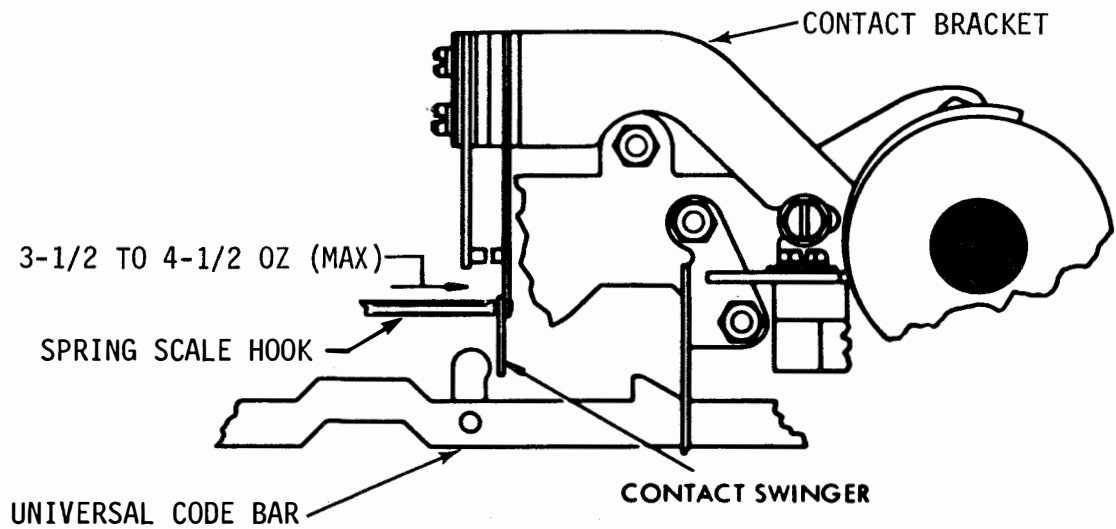

Figure 6-443. Universal Code Bar Contact
(6) Universal Code Bar Contact. Adjust as follows:
- (a) Refer to Figure 6-443.